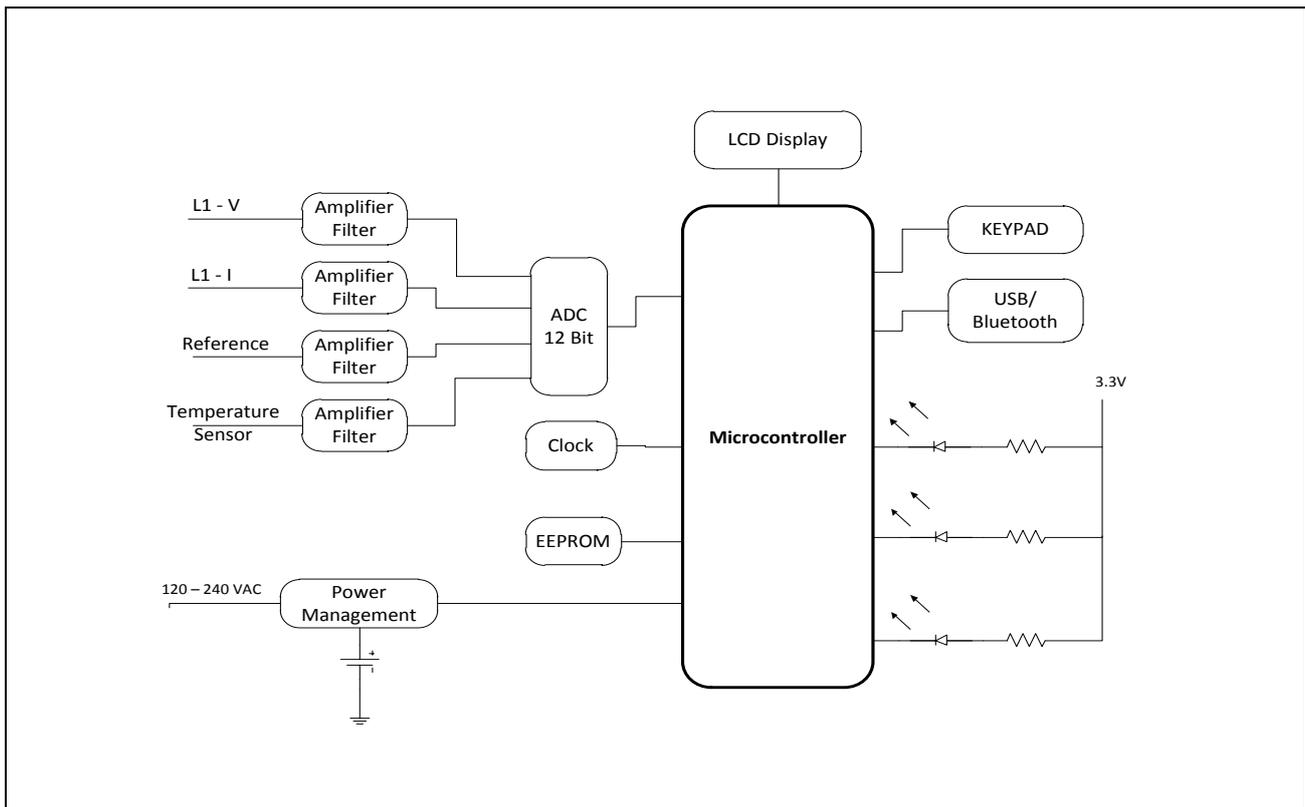

Figure 1 Block Diagram Energy Meter
A typical smart meter system block diagram is shown in Figure 1. This design is based on the wideband sampling technique and uses a single 12-bit SAR ADC to sample voltage and current signal values. The example shows a single-phase two-wire design where one line voltage and one phase current are measured with two of the 12-Bit ADC inputs. A segment LCD module is typically used to display voltage, current, instant power, accumulated energy, power factor etc. Meter reading is supported through a simple optical pulse port or through more complex IO extension cards for wireless or power line communication technologies. Other I/O functions include push buttons and LEDs for diagnostic and manual controls. External flash memory and EEPROM are used for firmware upgrades and data storage.
The meter need to measure AC voltage and AC current and depending on the number of phases and configuration it requires from two to eight ADC inputs. The example in Figure 1 shows a single-phase 2-wire topology. Both voltage and current signals need to be measured at the same instance. The line voltage is scaled down using resistor divider to get a signal within the ADC input range. A current transformers (CT) is used to convert the load current to a lower value and shunt resistors are provided to convert to voltage signal proportional to load current. Smart electricity meter applications require accurate input signal measurement and data processing, hence all high accuracy resistors used in the front end. If the current signal is small, a programmable amplifier is used to amplify the signal to use the full dynamic range of the ADC.